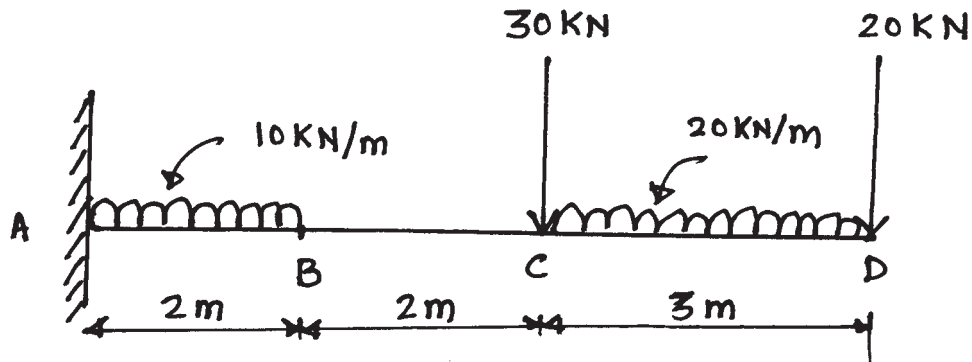

Fig. No. 1
- c) A cantilever beam is loaded as shown in Figure No. 1 Draw SFD and BMD.